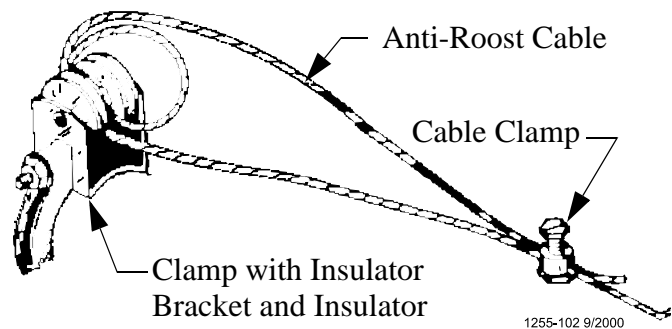

Figure 57. Anti-Roost Cable at feed drop location
2. Start at the feeder boot end of the line and form a loop around the anti-roost bracket. For best results, make a double loop around the anti-roost insulator in the center groove of the insulator and fasten with a 1/16" cable clamp, see **Figure 57**.